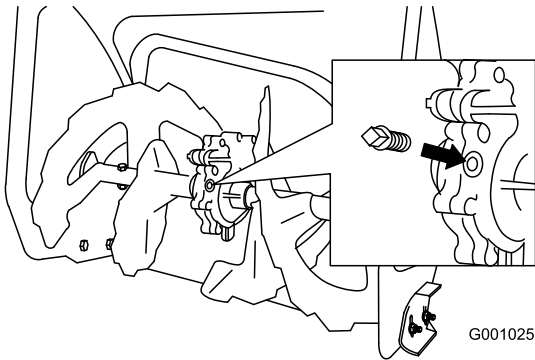

Figure 51
- 2. Clean the area around the pipe plug (Figure 51).